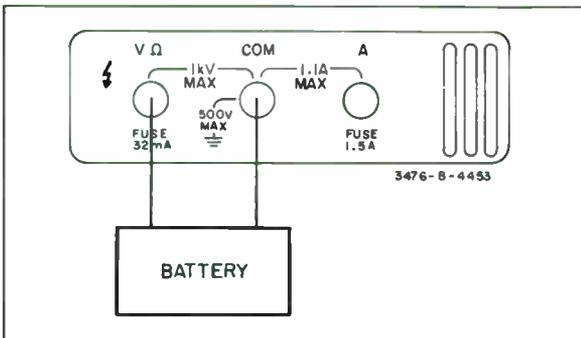

Figure 3-4. DC Voltage Measurement.
- VOLTS (V) (IN)
- AMP (A) AND kΩ (OUT)
3-16. Connect test leads from the Multimeter V Ω (HI) and COM (LOW) connectors to the voltage under test as shown in Figure 3-4.